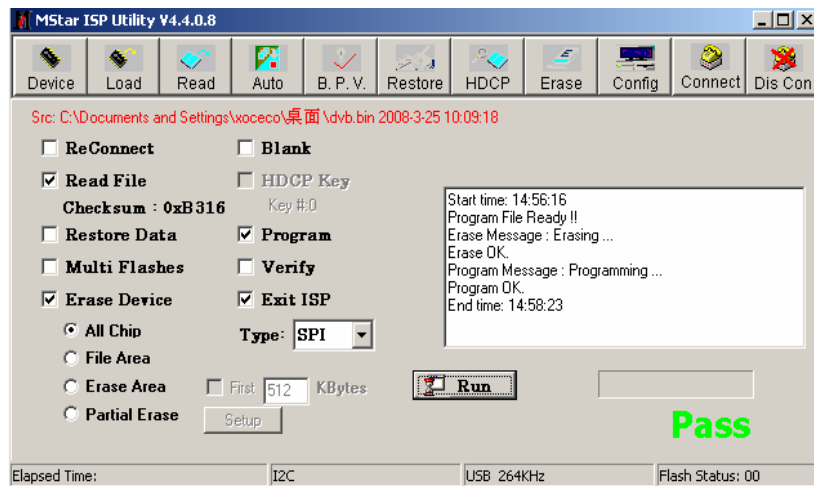

Fig. 6 Prompt “Pass” displayed by “Run” when upgrading succeeds
7) Prompt “Pass” will display by button “Run” when upgrading succeeds; please refer to Fig. 6;